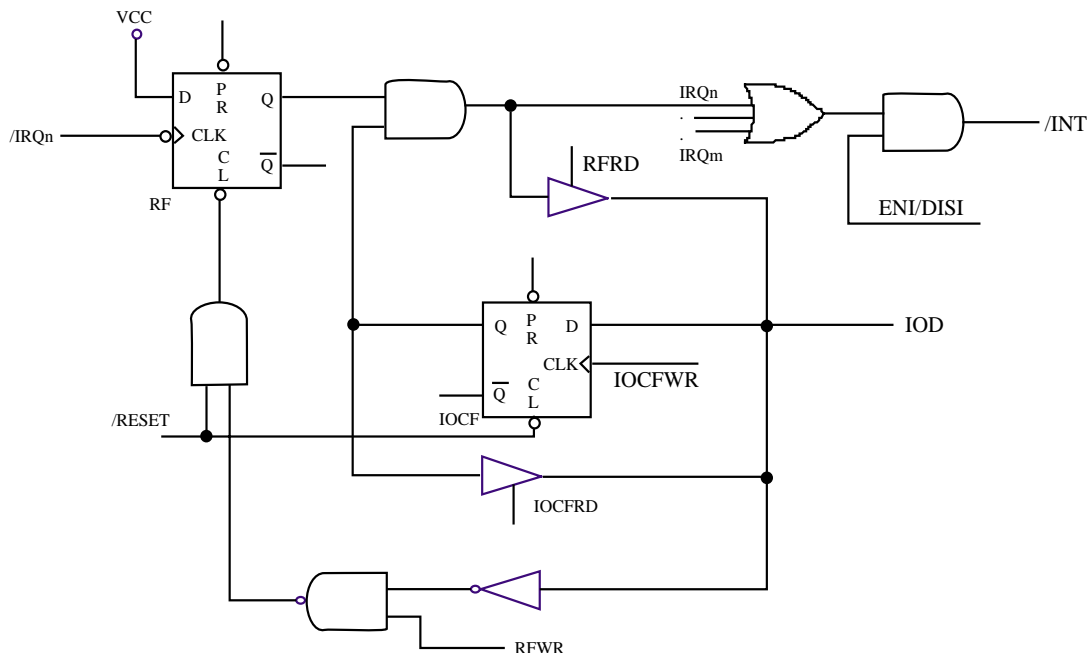

Fig. 10 Interrupt input circuit
The flag (except ICIF bit) in the Interrupt Status Register (RF) is set regardless of the status of its mask bit or the execution of ENI. Note that the outcome of RF will be the logic AND of RF and IOCF0. Refer to Fig. 10. The RETI instruction ends the interrupt routine and enables the global interrupt (the execution of ENI).